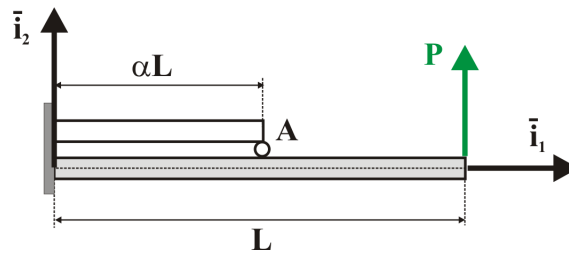

Figure 6: Cantilevered beam with intermediate support.
The cantilevered beam depicted in fig. 6 is subjected to a tip load P . The tip of a second cantilevered beam contacts the first at point **A**. The lower and upper beams have a uniform bending stiffness, H_{33}^c , uniform shearing stiffnesses, K_{22} , and are of length L and αL , respectively. (1) Find the displacement fields for the two beams. (2) Plot the distribution of transverse displacement, bending moment, and shear force for both beams. Use $\alpha = 0.25$. For each question, consider the following cases: (a) the beam has no shearing deformations (*i.e.* assume Euler-Bernoulli beam theory); (b) the beam is made of steel and has a rectangular cross-section with $E/G = 2.6$ and $h/L = 1/5$, see section A in fig. 14.10; (c) the beam has a sandwich cross-section with $E_f/G_c = 35$, $t/h = 1/10$, $h/L = 1/5$, see section B in fig. 14.10. (3) Study the behavior of the system as $\alpha \rightarrow 0$. Comment on your results.